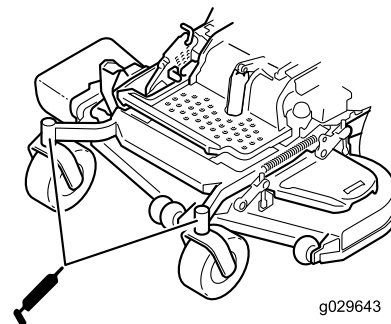

Figure 50
6. Install the hex plug and dust cap (Figure 50).
7. Grease the caster-wheel bearings (Figure 50).